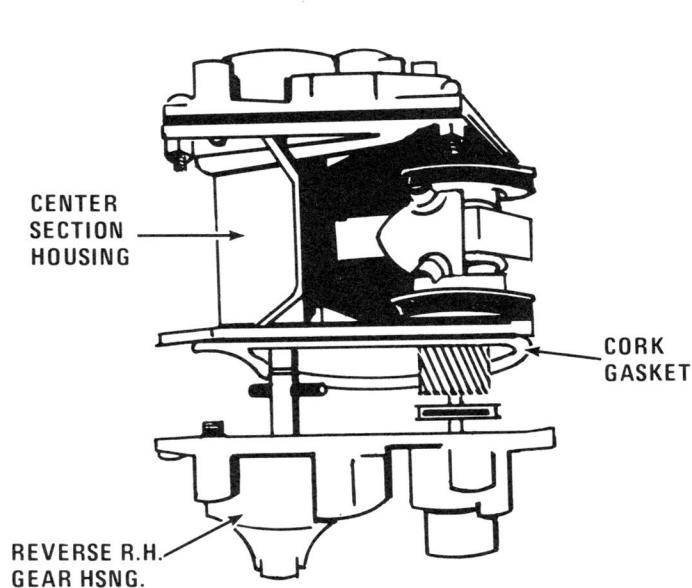
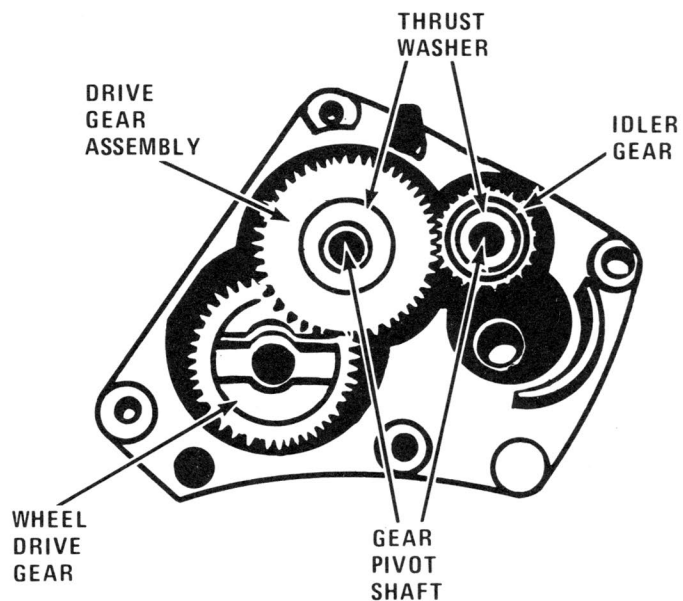

Fig. 4
Fig. 5
1. Reverse (RH) Section (Short)
- c. Remove four (4) bolts and nuts. Note that bolt and nut nearest pivot post are reverse and should be replaced this way.
- d. Hold Power Drive Unit with Reverse side down and separate the Reverse (RH) Gear Housing from the Center Section (Fig. 4). Note the position of the gears and thrust washers carefully. (Fig. 5)